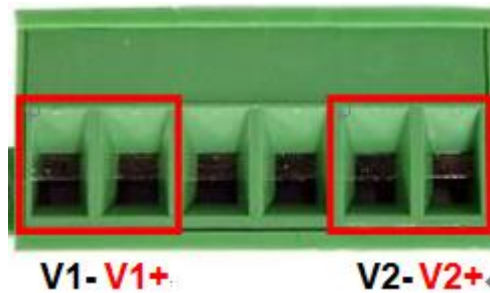

Figure 2.14
1. Insert the positive and negative wires into the PWR1 (V1+, V1-) and PWR2 (V2+, V2-) contacts on the terminal block connector as shown below in *Figure 2.14*.